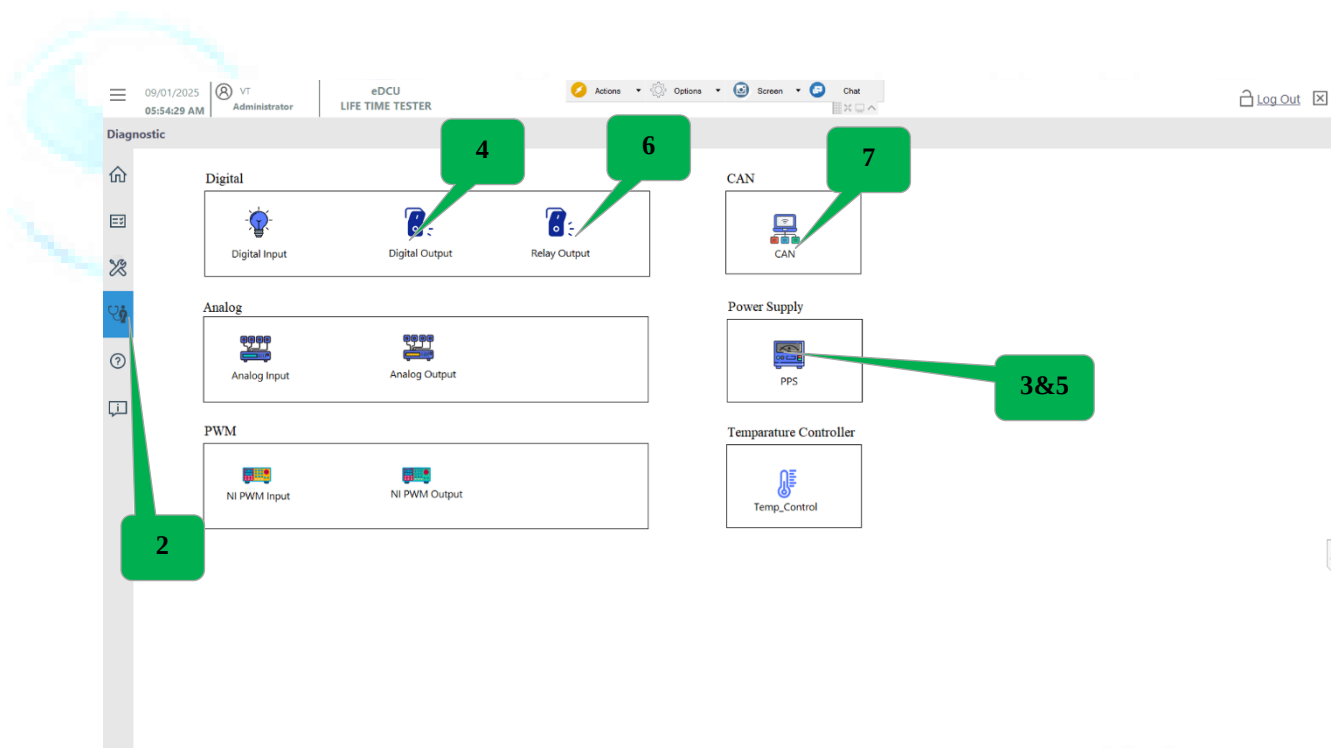

Figure 72: Diagnosis mode Flash
Click the Diagnosis button to display the screen. To use flashing, access the driver programmable power supply and digital output. The user screen, as shown below, will appear. Please refer to Fig. 72.
- 1) Click the Diagnostic Screen Button and Refer Fig 72.
- 1) Click the Diagnostic Screen Button and Refer Fig 72